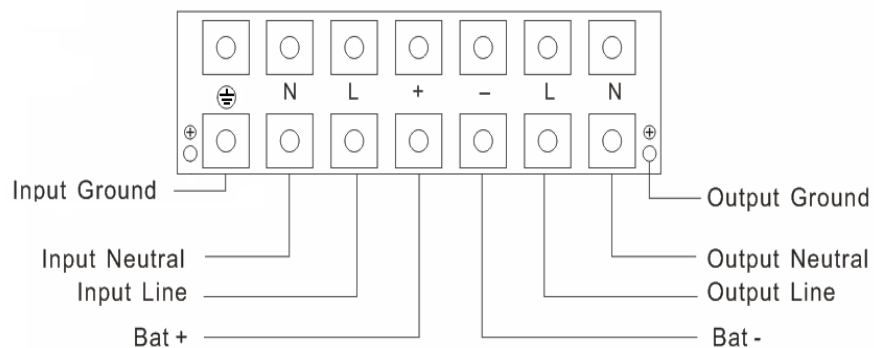

Figure 3-4 Connection method of terminal block for PANTHER 6KR/10KR(XL)
2. Take out the battery cable delivered with the UPS(only for 1-3kVA), one end of the external battery cable is a plug for connecting the UPS, the other end has 3 open wires for connecting the battery pack. (6-10kVA Refer to Figure3-4)